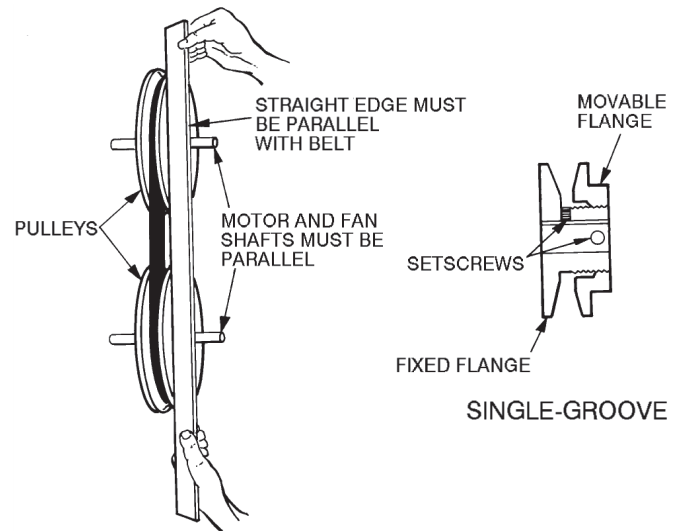

Fig. 20 — Fan Pulley Adjustments
3. Loosen movable pulley flange setscrew (Fig. 20).
Shut off unit power supply. Lock out power supply and tag disconnect locations. Loosen fan motor pulley setscrews and slide fan pulley along fan shaft. Make angular alignment by loosening motor from mounting bracket. Check alignment with a straightedge (see Fig. 20).